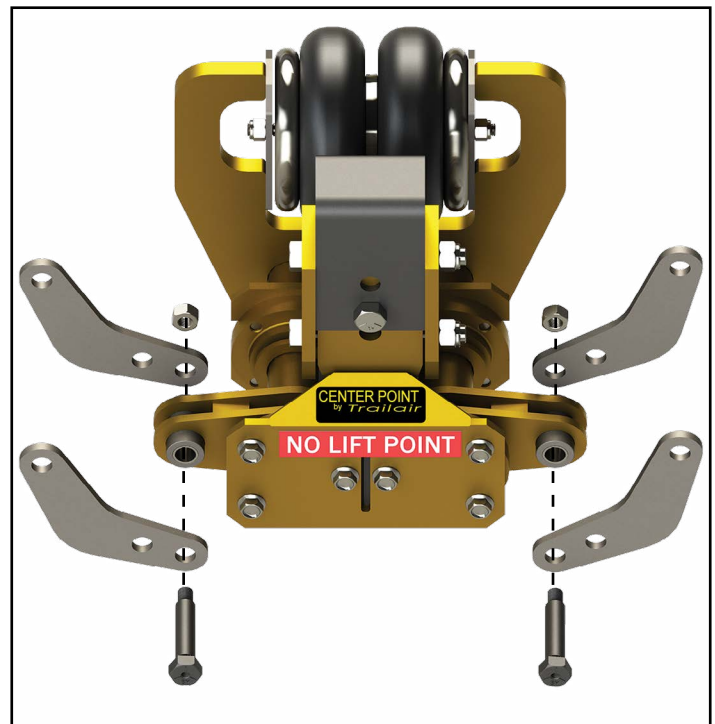

Fig.4
10. Starting on the left side of the sub-assembly, dry fit one of the provided shackles onto the front of the sub-assembly's cross-shaft shackle links (**Fig. 4**).